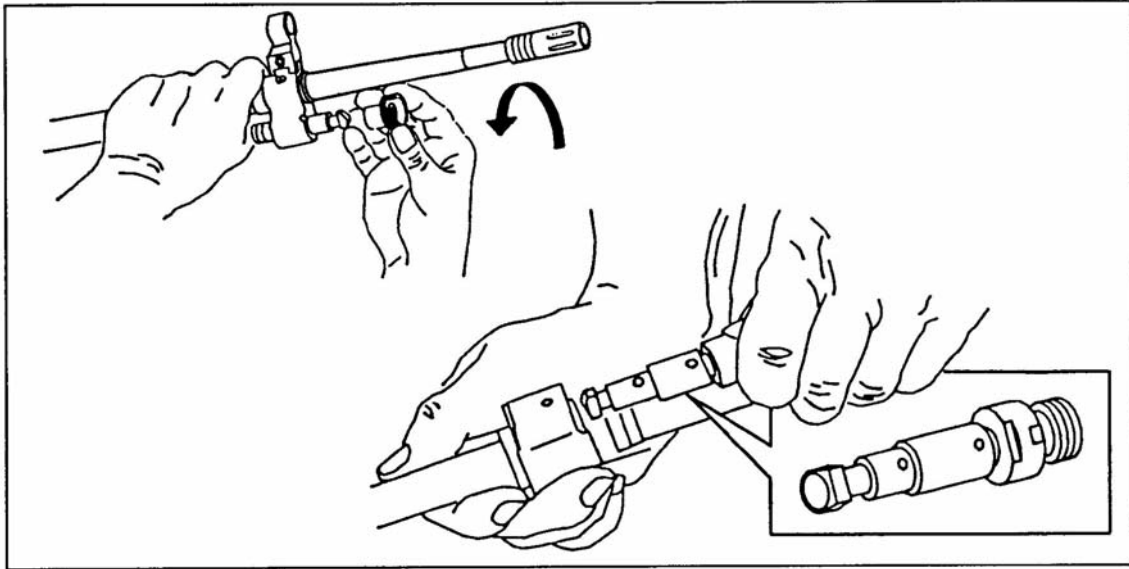

Figure 10. Removal of the gas regulator from the gas block.
- (3) Turn the collar counterclockwise and remove it (Figure 10).
- (4) Remove the gas regulator from the gas block (Figure 10).